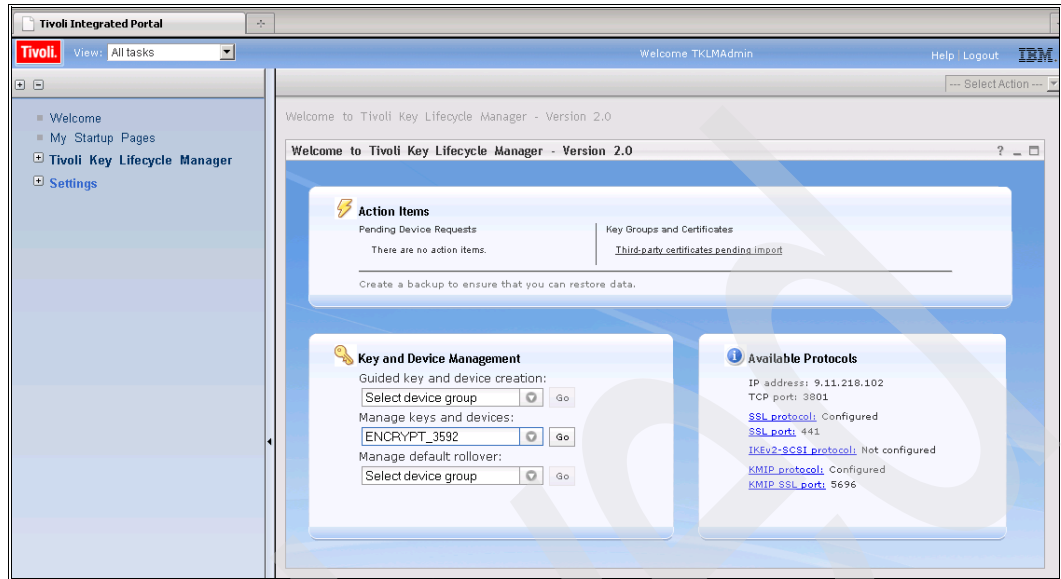

Figure 9-24 Welcome panel with selected device group
- On the Welcome Panel, select the device group from the **Manage keys and devices** drop-down box as shown in Figure 9-24. Click **Go**.